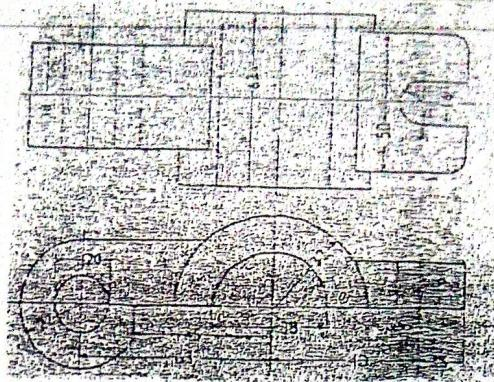

Figure P.1
1. Orthographic views of an object are shown in Figure P.1. Draw its isometric view. [3]